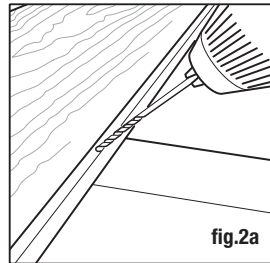

fig.2a
- To keep the interior boards from moving over time, pin the boards at the center of their length using a #8, 2" stainless steel screw. This holds the deck board in place at the center of each board and allows the decking to expand/contract at the ends. Pre-drill in the groove of the deck board with an 3/16" drill bit (fig. 2a). Drive screw into the groove so it's flush with the bottom of the groove (fig. 2b). This will allow you to properly fit a Stowaway hidden fastener into the groove.